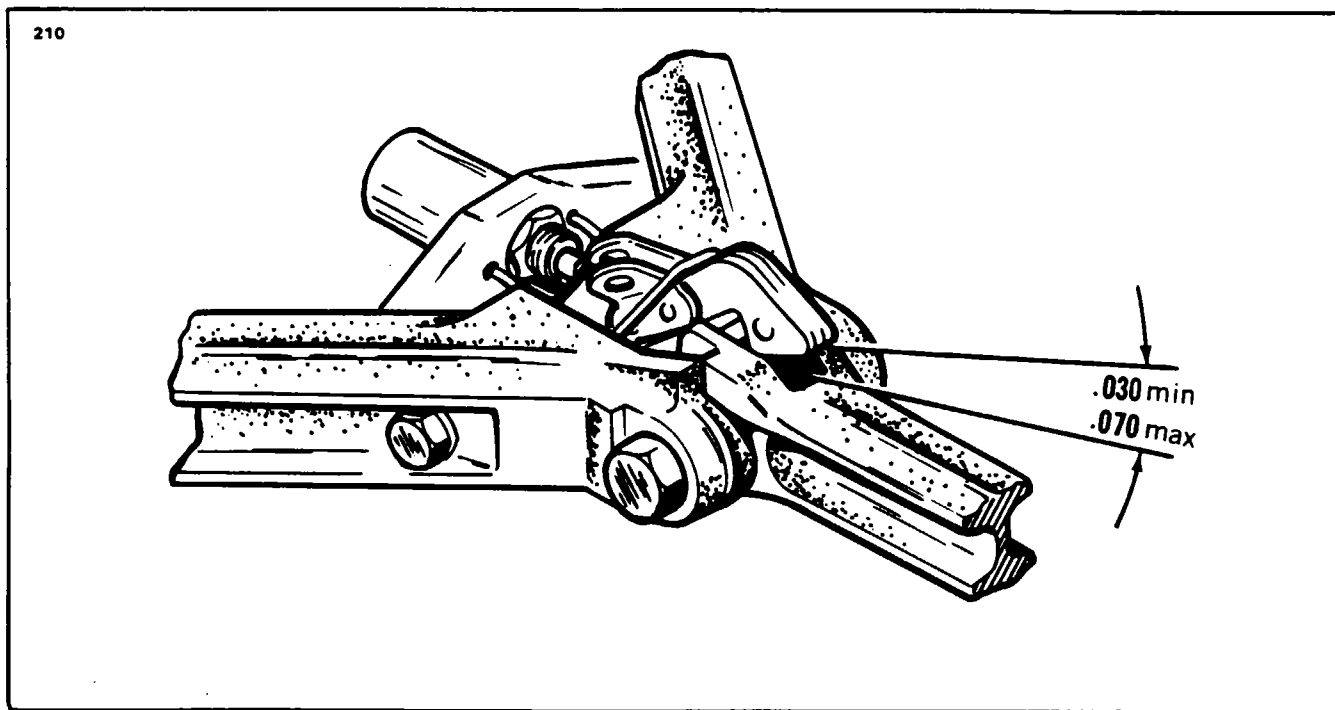

Figure 32-24. Adjusting Main Gear Down Light Switch
ADJUSTMENT OF MAIN GEAR DOWN LIMIT SWITCH. (Refer to Figure 32-24.)
- B. With hook raised, place a .070 of an inch wire feeler gauge between the hook and bottom surface of the slot in the side brace link. (Refer to Figure 32-24.)